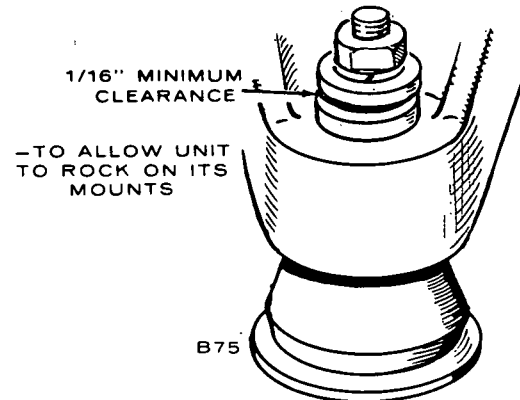

FIGURE 3. VIBRATION ISOLATORS
2. Vibration isolators of the type shown (with snubbing washers) in Figure 3 must be installed properly to minimize vibration. Leave 1/16-inch minimum clearance between the snubbing washers as shown in Figure 3.